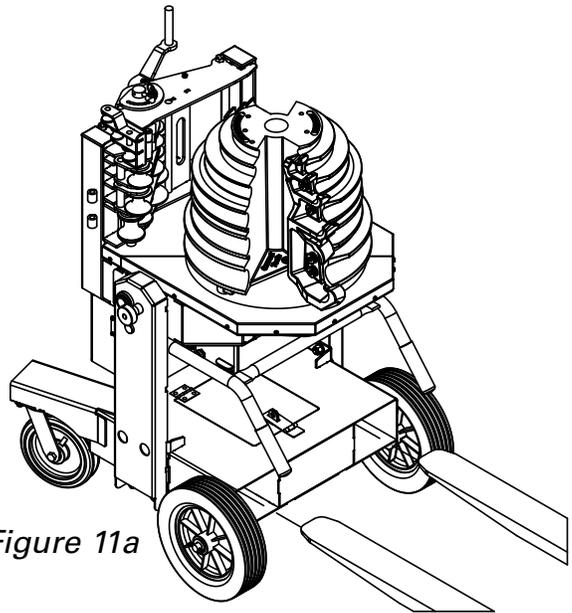

Figure 11a
4. Insert the forks from the back side of the bender until they make contact with the fork stops on the front side of the carriage (See Figure 11a). Lift the bender and tilt mast back for stability.